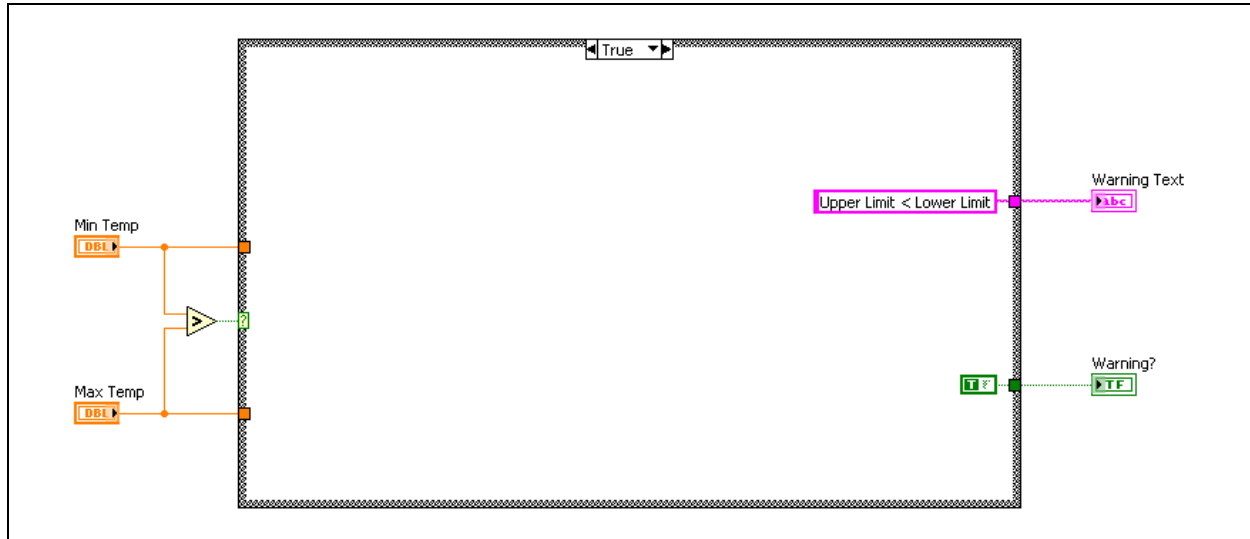

Figure 3-40. Determine Warnings VI Block Diagram
6. If the Min Temp is greater than the Max Temp, create a custom string for the Warning Text indicator and set the Warning? indicator to True, as shown in Figure 3-40.